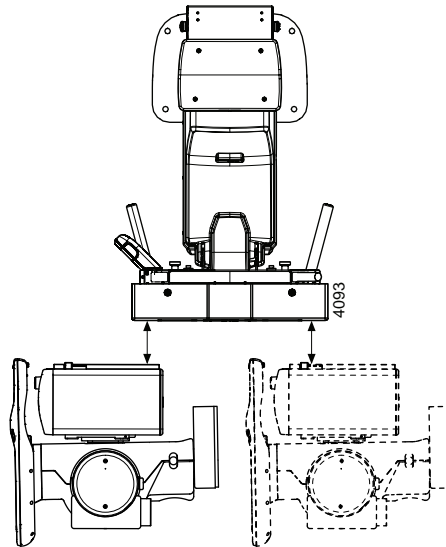

Fig. 4-101
2. Move the OTC and place the collimator 10 mm from the detector of the wall stand according to Fig. 4-101 .